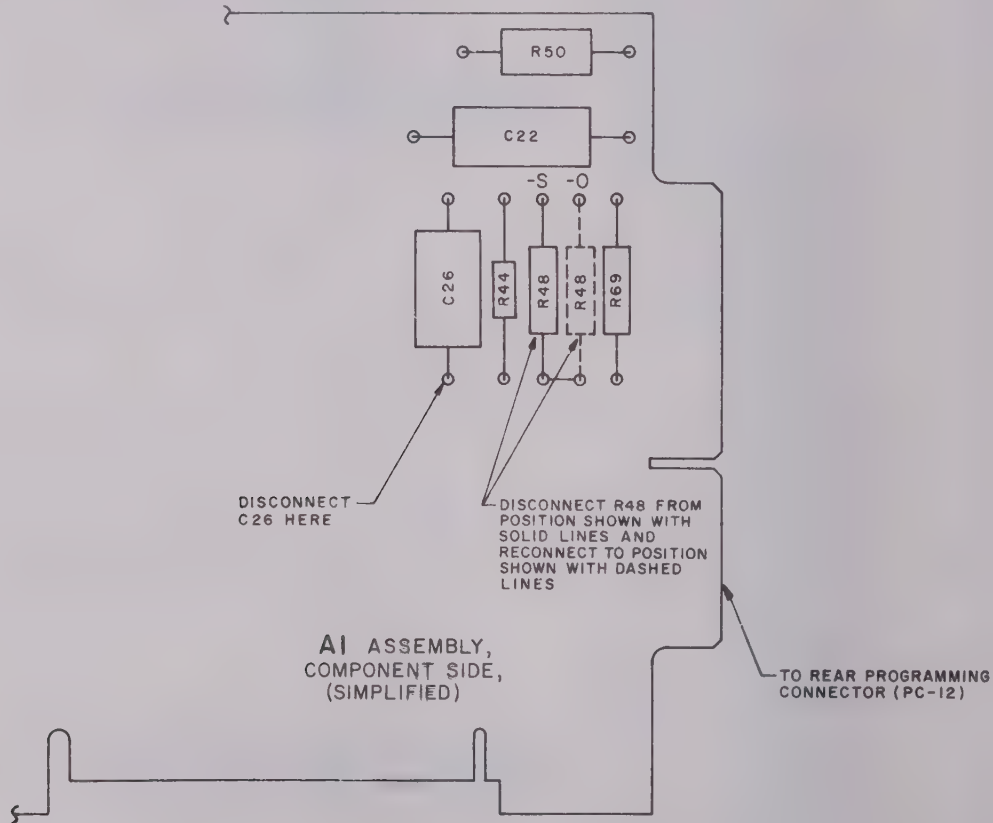

FIG. 3-27 LOCATION OF OVERVOLTAGE SENSING LEAD DISCONNECT.
- 3-113 The problem encountered in operating power supplies with overvoltage detection circuits in a redundant parallel configuration is that the overvoltage sensing leads are usually permanently wired to the error sensing leads. If now an overvoltage occurs on *either* power supply, *both* supplies will shut down, defeating the purpose of the redundant circuit. In the ATE power supplies, provisions are made on the control circuit P.C. card (A1), to disconnect the overvoltage sensing from the error sensing terminal, reconnect it to the output terminal and remove C26, thus successfully solving the problem described. (See FIG. 3-27)
- 1) Remove covers from both ATE power supplies, locate A-1 P.C. card and rewire overvoltage sensing as described in par. 3-113 and as illustrated in FIG. 3-27. Remove capacitor C26 as described in par. 3-113 and as illustrated in FIG. 3-27.